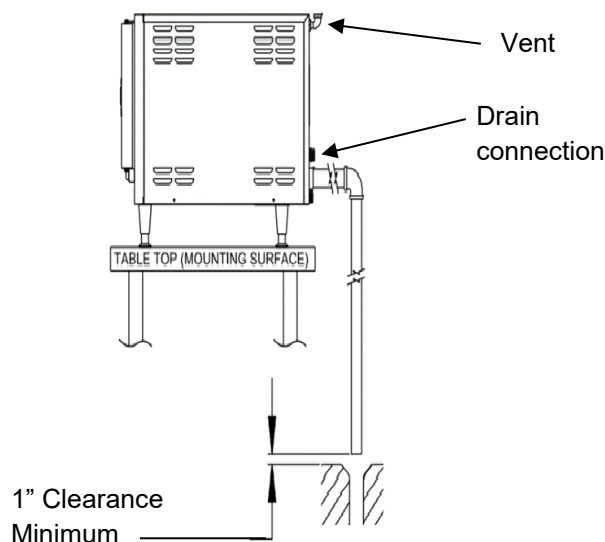

Figure 3-8 Typical Drain Connection
2. Connect the drain to a free air vented drain line. See Figure 3-8.
3. Free air venting requires a minimum 1" clearance between the end of the drain line and the top of the floor drain. See Figure 3-8.
11. Connect the drain to the appliance. See Figure 3-8.